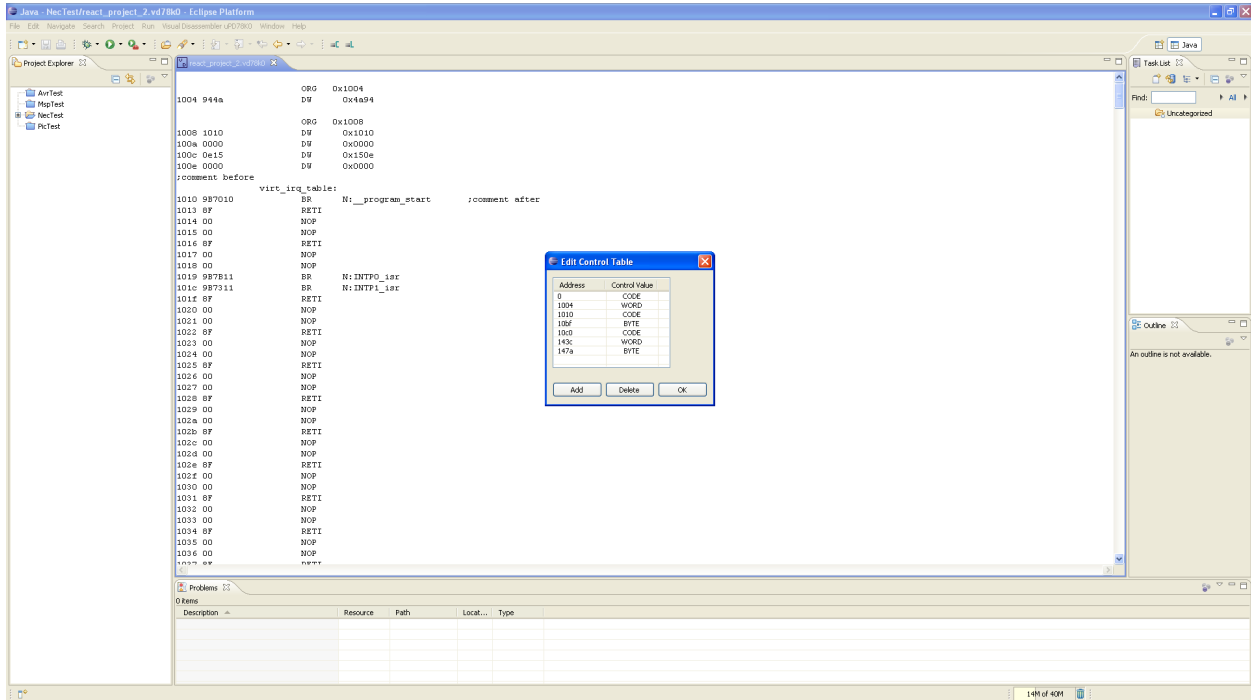

Figure 12
This menu item allows the user to modify the memory space parameters. The user can select either CODE, BYTE or WORD. A memory region specified as BYTE forces the disassembler to disassemble all opcodes as defined byte (DB). A memory region specified as WORD forces the disassembler to disassemble all opcodes as defined word (DW). The disassembler will disassemble all microprocessor opcodes in regions defined as CODE. The dialog box view is shown in figure 12.